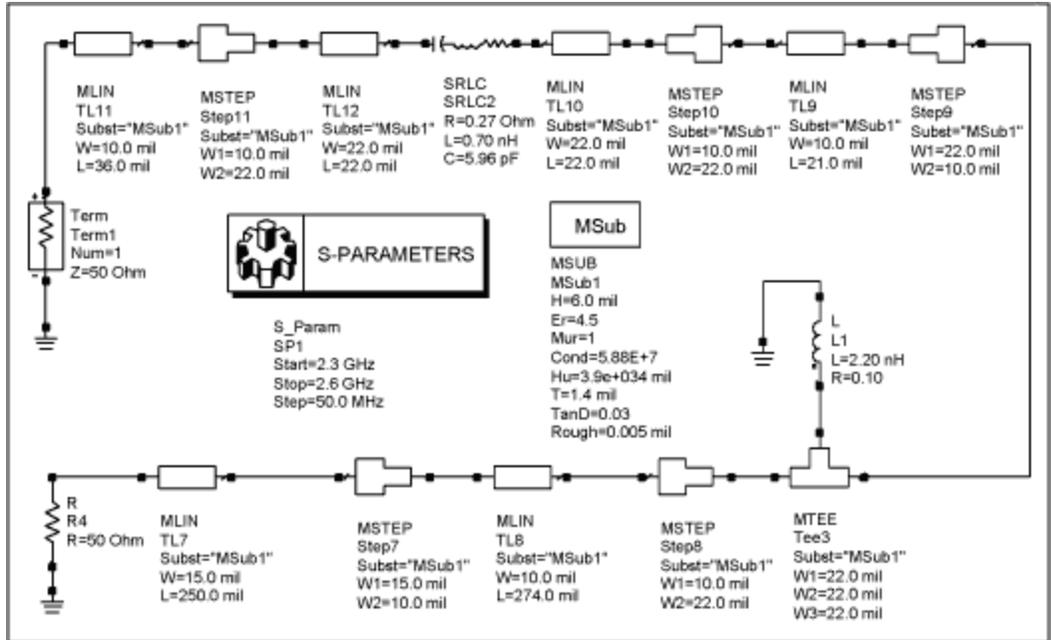

Figure 3. Input matching network.
**Figures 3** and **4** show the modeled lumped and distributed elements of the actual layout dimensions that make up the optimum input and output matching networks.